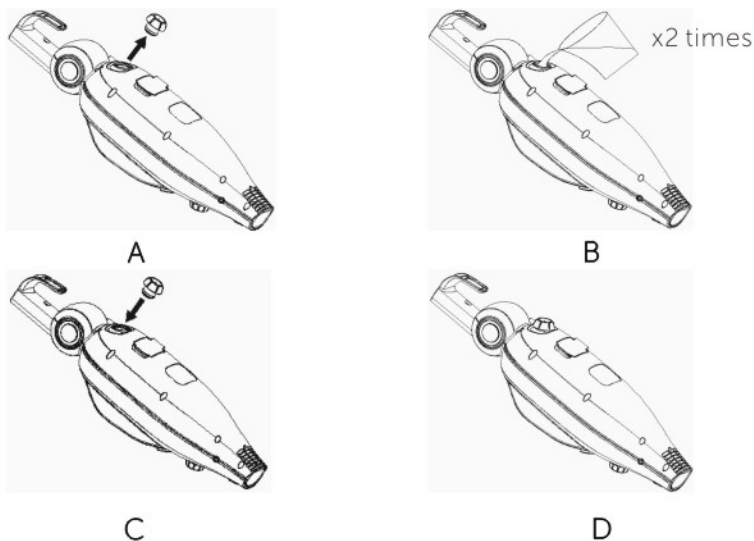

FIGURE 9
NOTE: Do not remove or cut small rubber air valve on top of Water Tank Cap (FIGURE 9-A). Do not turn unit upside-down when Water Tank is full – some water may leak through air valve.
4. Replace Water Tank Cap so that thread grooves on bottom of Cap (FIGURE 9-B) align with tabs inside fill hole (FIGURE 9-C). Press Water Tank Cap down so that it sits flush with top of fill hole (FIGURE 9-D). Rotate one quarter turn in clockwise direction (as indicated by "Lock" illustration on Cap) to lock it in place.